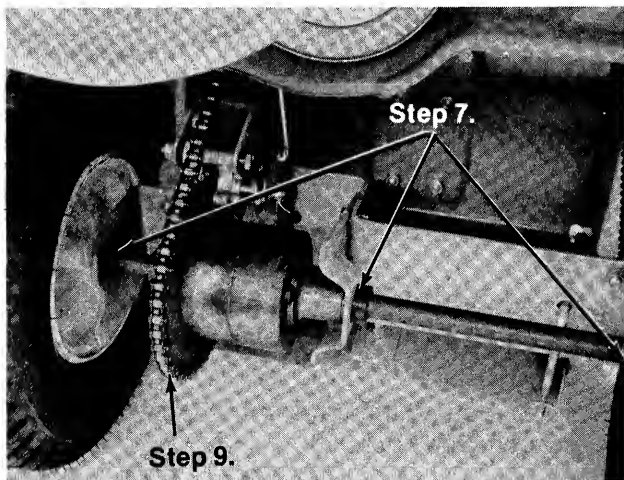

FIGURE 29.
4. Differential—It is lubricated at the factory with 2 ounces of high temperature grease (450°F.). The grease should only be checked or replaced if the differential is disassembled for repair. See figure 29.
6. Steering Column Bearings (2)—Oil once a season with light oil.
7. Rear Axle Bearings (3)—They require no lubrication. See figure 29.
8. Steering Shaft Bearings (2)—They require no lubrication.
9. Chain—Remove and clean with kerosene. Lubricate with an oil soaked rag. See figure 29.